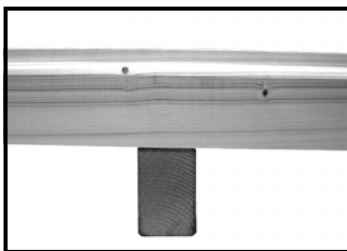

Fig B4
4. The bearers stand with the narrowest edge to the floor (fig B4) and their ends 5mm back from the A1 logs face (Level with the chamfer).